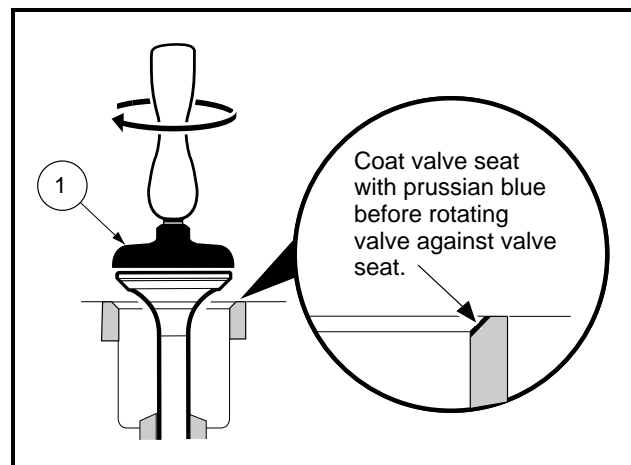

Figure 13-22 Rotate Valve against Valve Seat
4. Rotate the valve against the seat with a lapping tool (1) (**Figure 13-22, Page 13-14**).